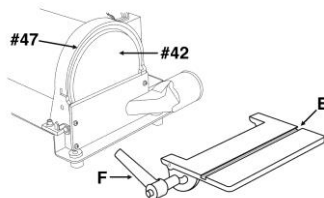

Fig. 19
1. Remove the locking levers (F) and slide the disc table (E) away from the tool (Fig. 19).
3. Peel the old abrasive disc (#42) from the backing disc (#47) (Fig. 19).
6. Replace the disc table and dust chute (Fig. 19, 20).